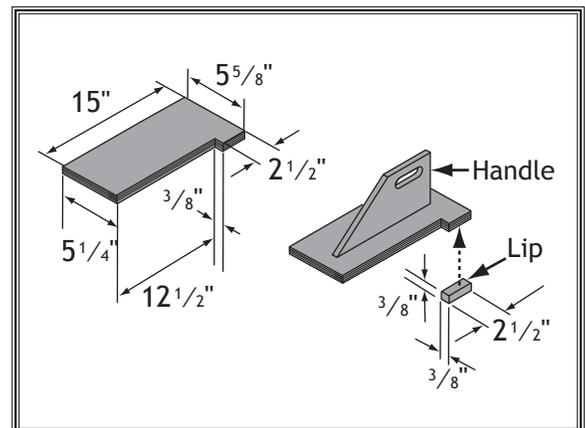

Figure 96. Push block dimensions and construction.
3. Using $\frac{3}{4}$ " material you used in previous steps, cut out pieces for push block per the dimensions shown in **Figure 96**; for handle, cut a piece 10" long by 5"-9" high and shape it as desired to fit your hand.